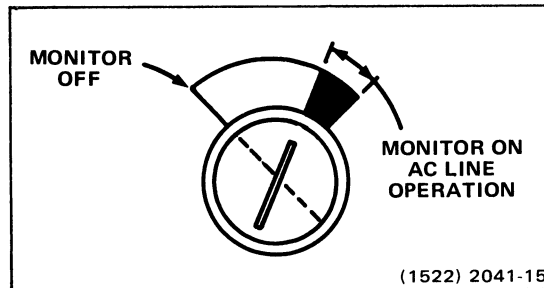
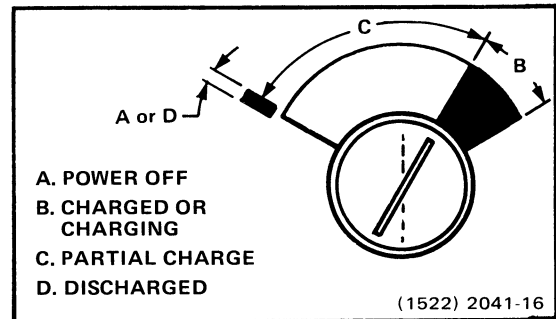

Fig. 7-2. Battery meter.
Fig. 7-3. Battery condition.
Battery Condition (Fig. 7-3)
① **BATTERY.** The meter indicates the approximate state of charge of the battery pack when the monitor is in battery operation. To interpret the meter reading, see Fig. 7-2 and Fig. 7-3.